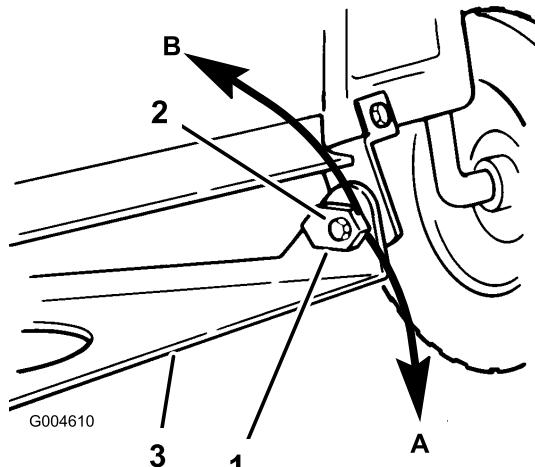

Figure 48
15. Adjust the front-to-rear slope by rotating the special slope adjusting nuts on both sides of the mower pivot mount (Figure 48).
16. Slowly rotate the left side slope adjusting nut down to raise the front of the mower; rotate the nut up to lower the front of the mower (Figure 48). Rotate the slope adjusting nut until the front of the mower is $1/4$ to $5/8$ inch (6 to 16 mm) lower than the rear of the mower.